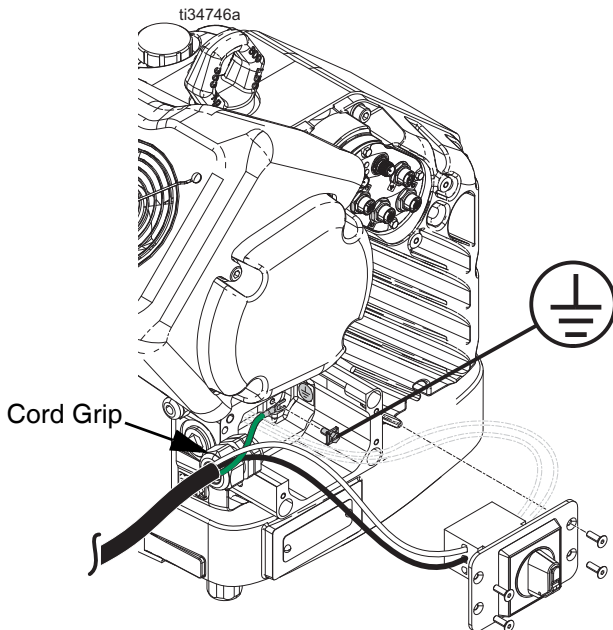

FIG. 8: Connect Power
4. Attach the ground wire to the ground terminal inside the junction box as shown in FIG. 8.